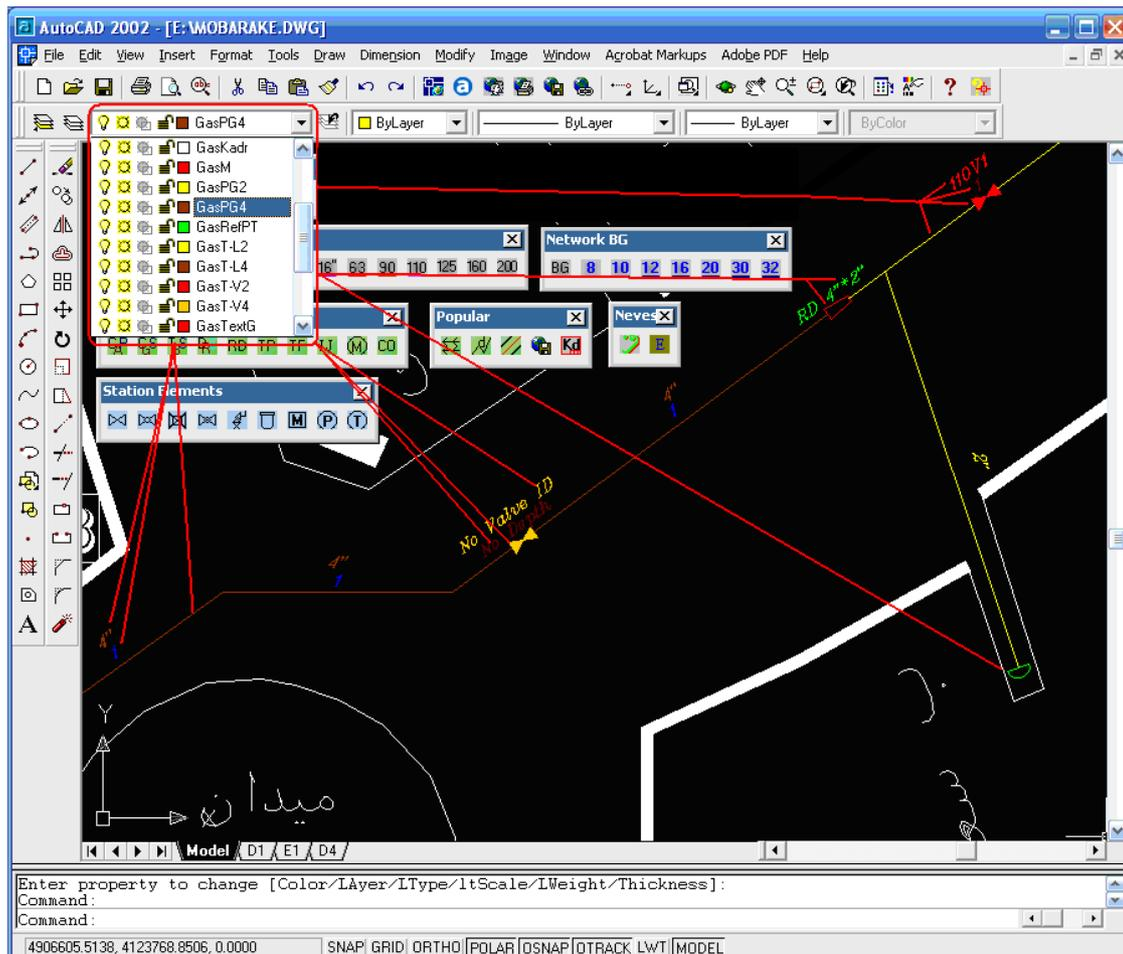

Figure 14
All gas elements will be placed in their own standard layers, **without changing of current layer**. As you see in the Figure 14, with drawing gas line, inserting valves or other gas elements, layers are created automatically. Then blocks can be placed in correct layers.
- Figure 14 : Gas pipe line and other elements in “City Layout – Gas” software.